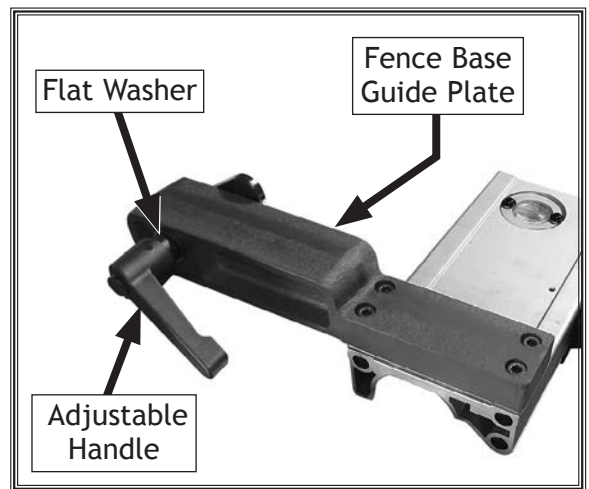

Figure 27. Fence base adjustable handle and guide plate installed.
- Install adjustable handle onto fence base with (1) 8mm flat washer, and thread into fence base guide plate (see **Figure 27**).